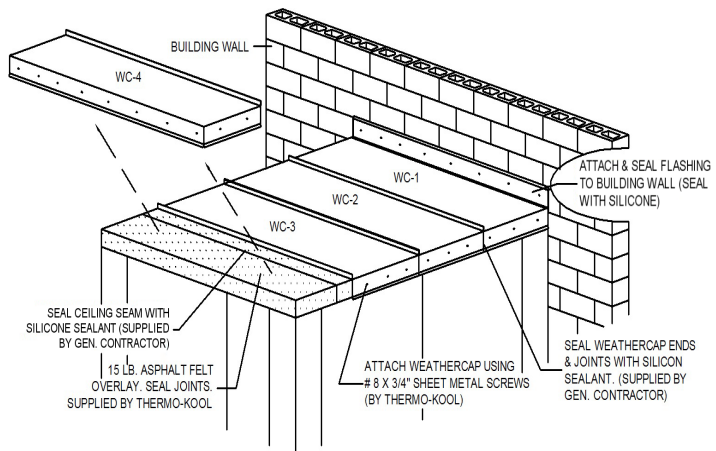

FIGURE 16 - METAL WEATHERCAP INSTALLATION FLASHED TO BUILDING WALL
3. Position the first weathercap #WC-1 and attach 6" flange to ceiling panels with #8 x 3/4" screws provided. Continue placing #WC-2, #WC-3, etc., fastening to the ceiling panels. Ensure all metal seams are snug. Do not allow metal seams to spread or the overall cap will be too large for the walk-in (Refer to Figure 16).
Note: Where the walk-in is installed next to a building wall, the ends of the weathercap will flange upwards 6" against the building. Attach the flange to the building wall and seal watertight (Refer to Figure 16).